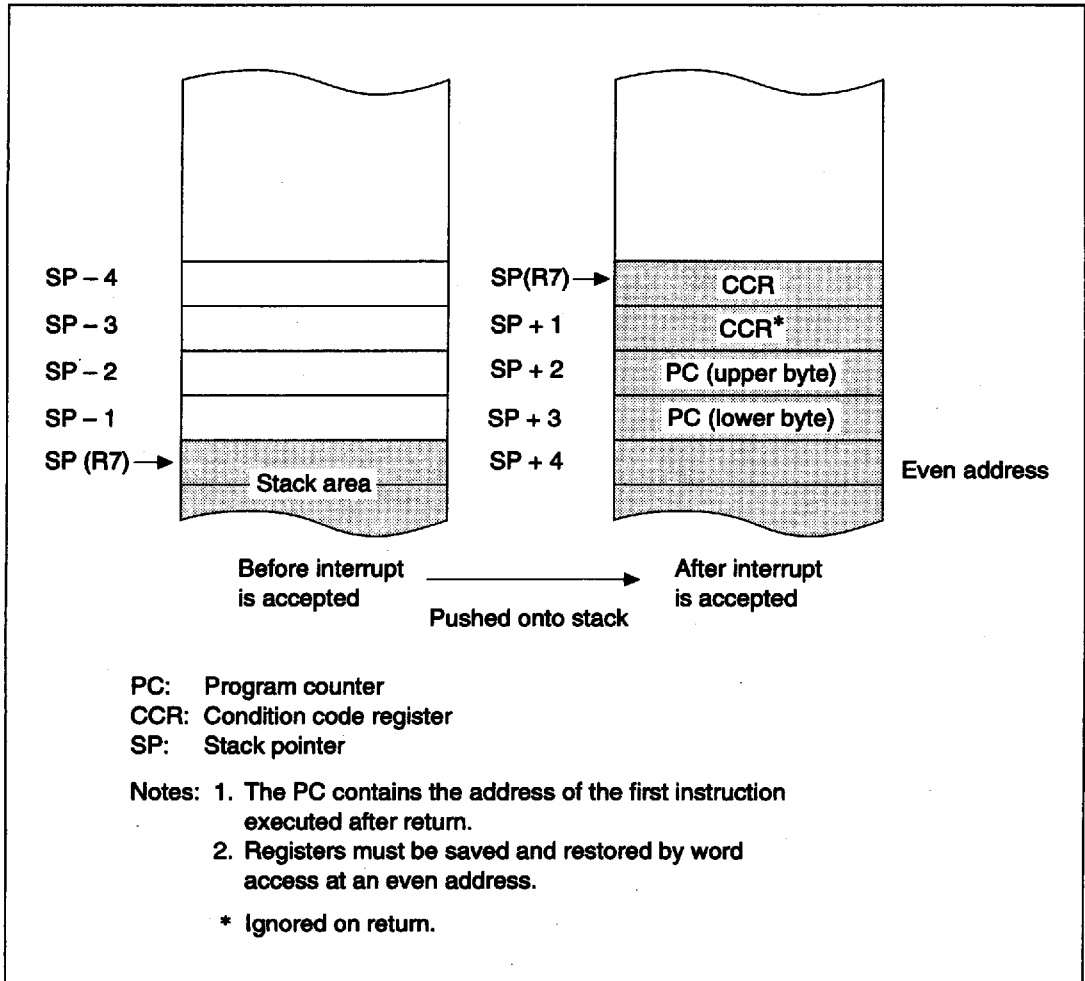

Figure 4-5 Usage of Stack in Interrupt Handling
- (1) An interrupt request is sent to the interrupt controller when an NMI interrupt occurs, and when an interrupt occurs on an IRQ input line or in an on-chip supporting module provided the enable bit of that interrupt is set to 1.
- (2) The interrupt controller checks the I bit in CCR and accepts the interrupt request if the I bit is cleared to 0. If the I bit is set to 1 only NMI requests are accepted; other interrupt requests remain pending.
- (3) Among all accepted interrupt requests, the interrupt controller selects the request with the highest priority and passes it to the CPU. Other interrupt requests remain pending.
- (4) When it receives the interrupt request, the CPU waits until completion of the current instruction or hardware exception-handling sequence, then starts the hardware exception-handling sequence for the interrupt and latches the interrupt vector number.
- (5) In the hardware exception-handling sequence, the CPU first pushes the PC and CCR onto the stack. See figure 4-5. The stacked PC indicates the address of the first instruction that will be executed on return from the software interrupt-handling routine.
- (6) Next the I bit in CCR is set to 1, masking all further interrupts except NMI.
- (7) The vector address corresponding to the vector number is generated, the vector table entry at this vector address is loaded into the program counter, and execution branches to the software interrupt-handling routine at the address indicated by that entry.